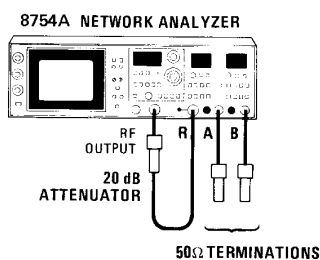

Figure 4-10. Receiver Noise Level Test Setup
1. Connect equipment as shown in Figure 4-10. Set controls as follows: